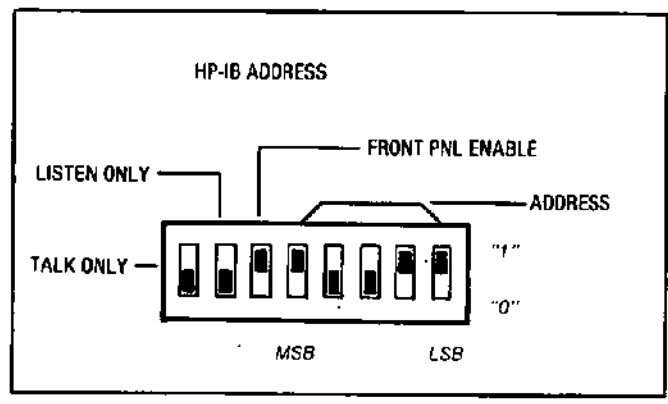

Figure 2-3. HP-IB Address Switch Shown as Set by the Factory
- e. Set the switches to the desired HP-IB address (in binary) and the Talk Only or Listen Only condition. The switch is illustrated in Figure 2-3. If both the Talk Only and the Listen Only switches are set to "1", the Talk Only setting overrides the Listen Only setting.